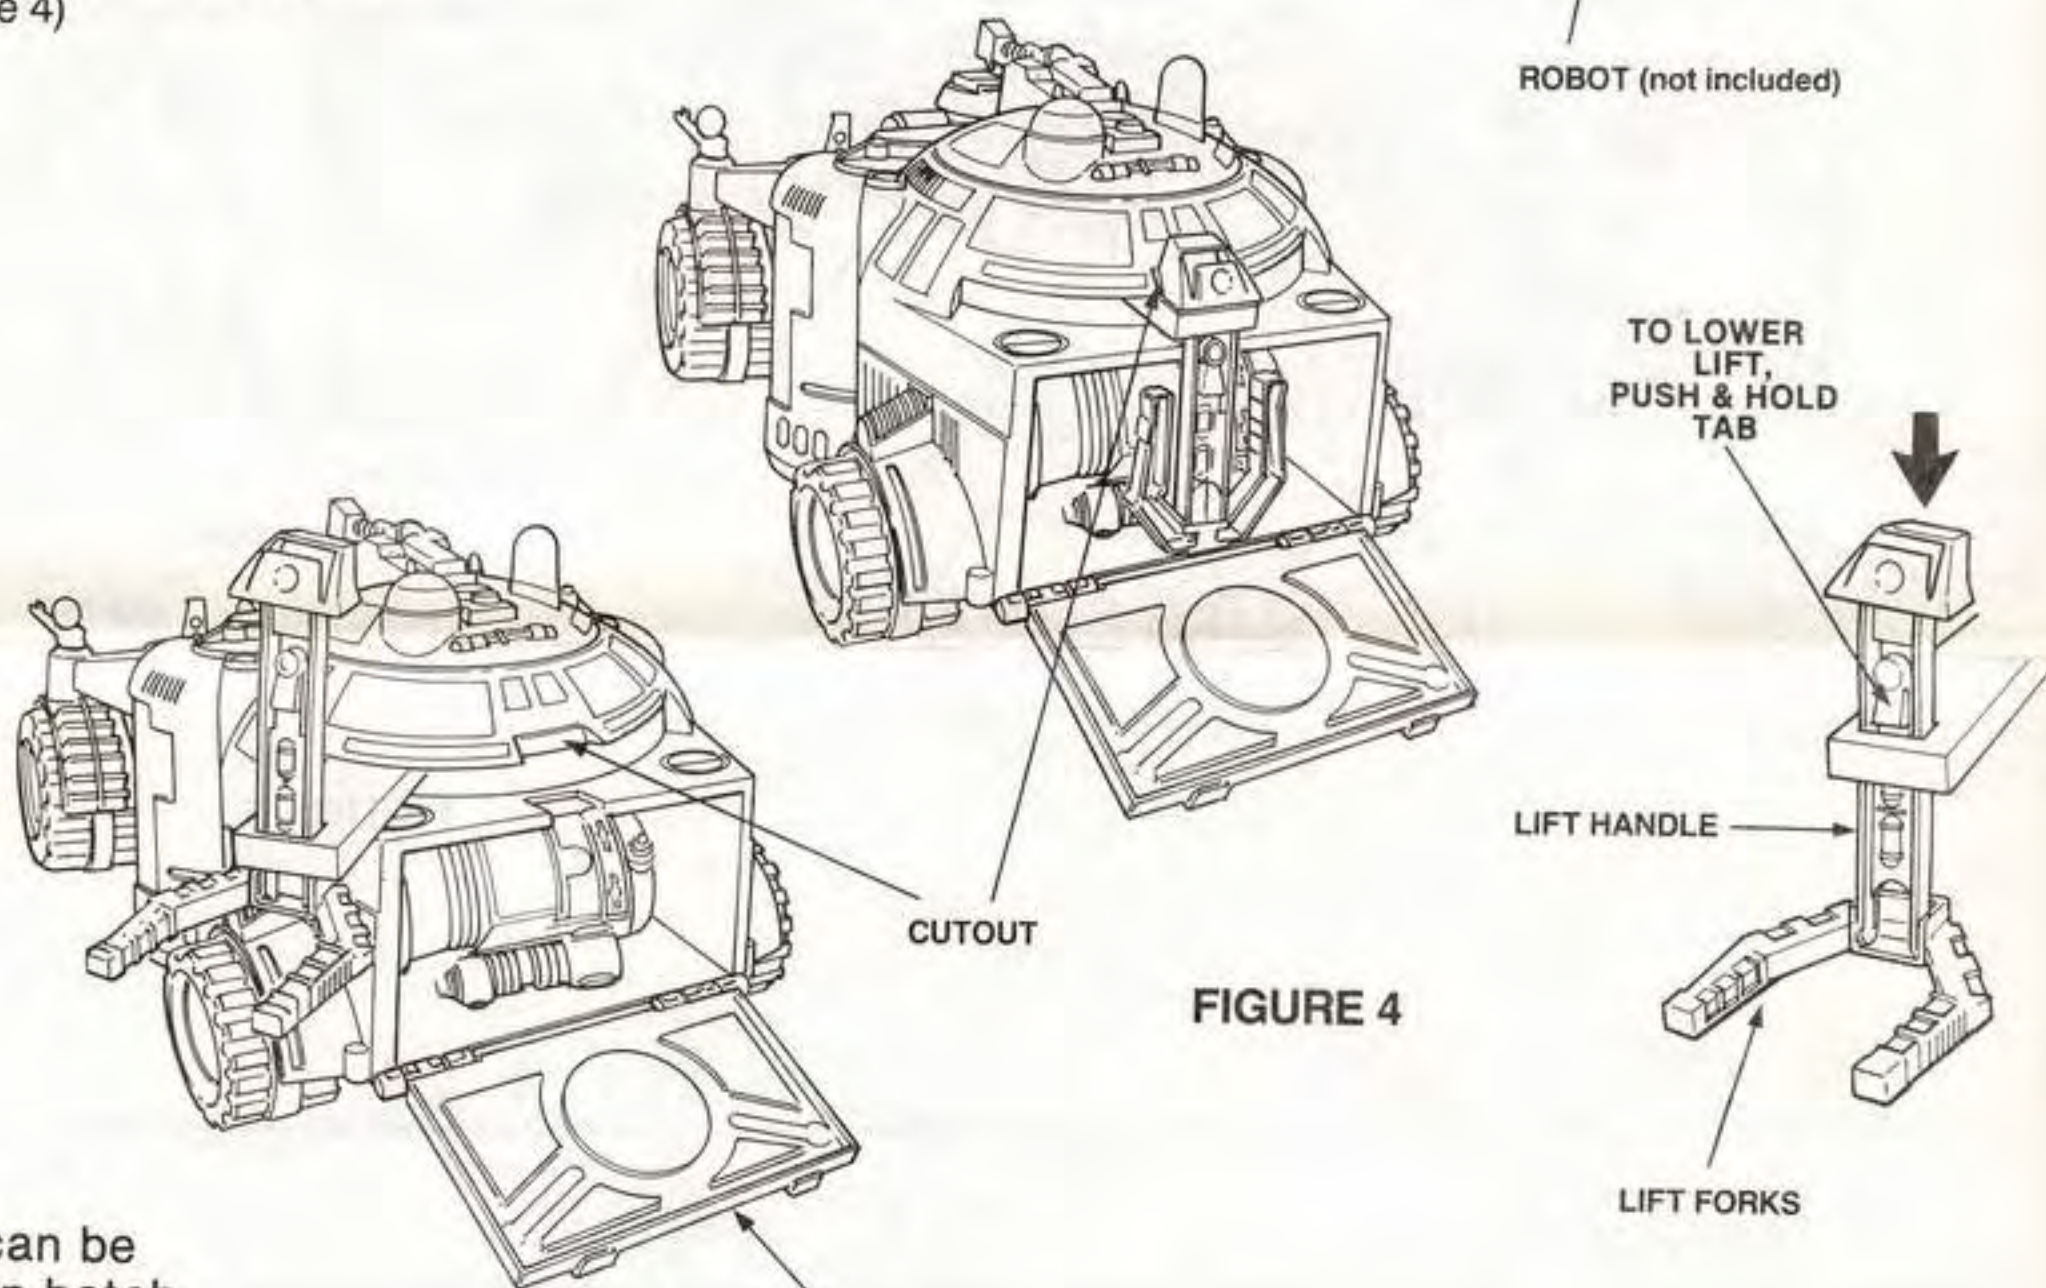

FIGURE 4
2. TO LOWER ROBOT LIFT: First press and hold TAB under LIFT HANDLE, then lower LIFT. (Figure 4)